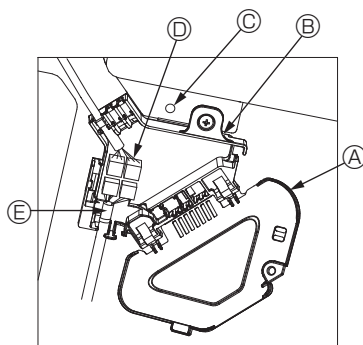

Fig. 5-9
- ① Remove the one screw securing the connector box cover, slide the cover in the direction indicated by the arrow as shown in the diagram, and then open the cover.
- ② In the connector box, locate the junction wire for the vane motor of the grille and the wire for the vane motor, and then connect the wires. (Fig. 5-9)